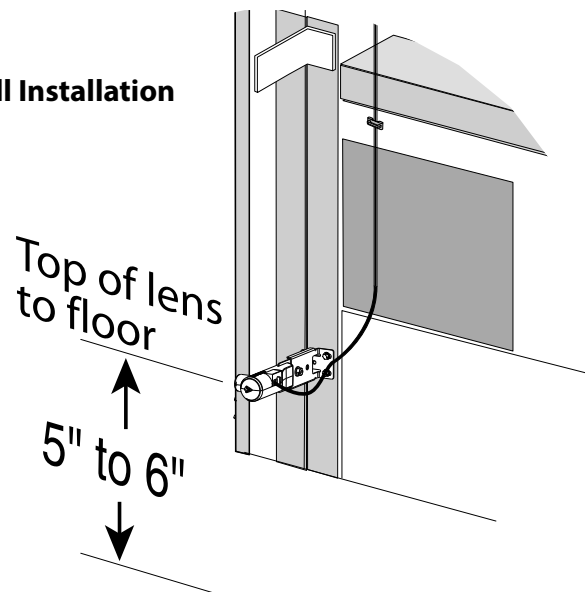

FIG. 7
1. Determine location for mounting. They do not need to be directly adjacent to the door but must be somewhere along the wall where there will be an unobstructed line between them. FIG. 7.